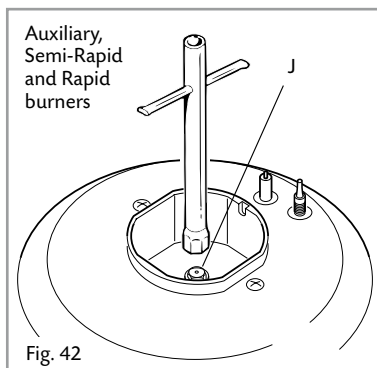

Fig. 42
- Using a wrench, substitute the nozzle injectors "J" (Figs. 42 - 43) with those most suitable for the kind of gas for which it is to be used (see "Table for the choice of the injectors").